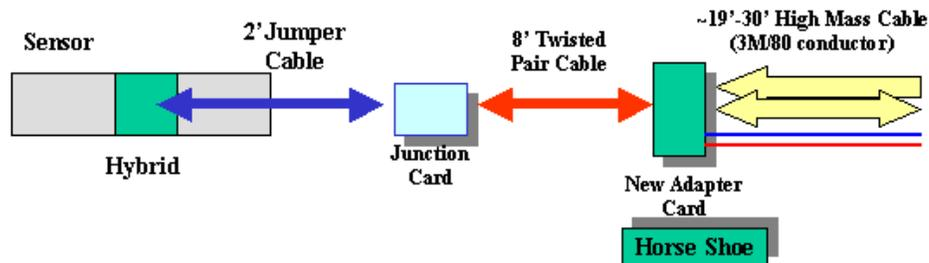

Figure 1. Conceptual readout for D0 Run 2B silicon
The Twisted Pair Cable, approximately 2.5 meters long, connects the Junction Cards (JC) and Adapter Cards (AC) as shown in Figure 1.